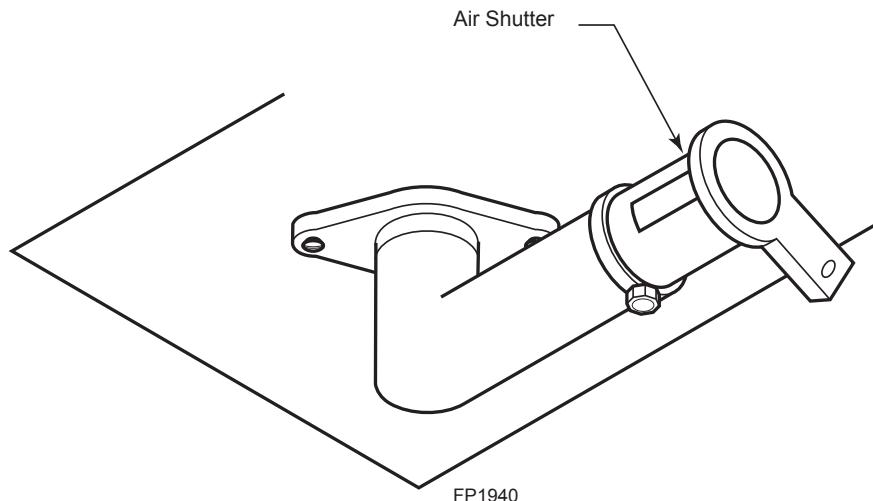

Figure 32 -
- To increase air mixture, open the shutter more. This will reduce soot formation. *Figure 32*